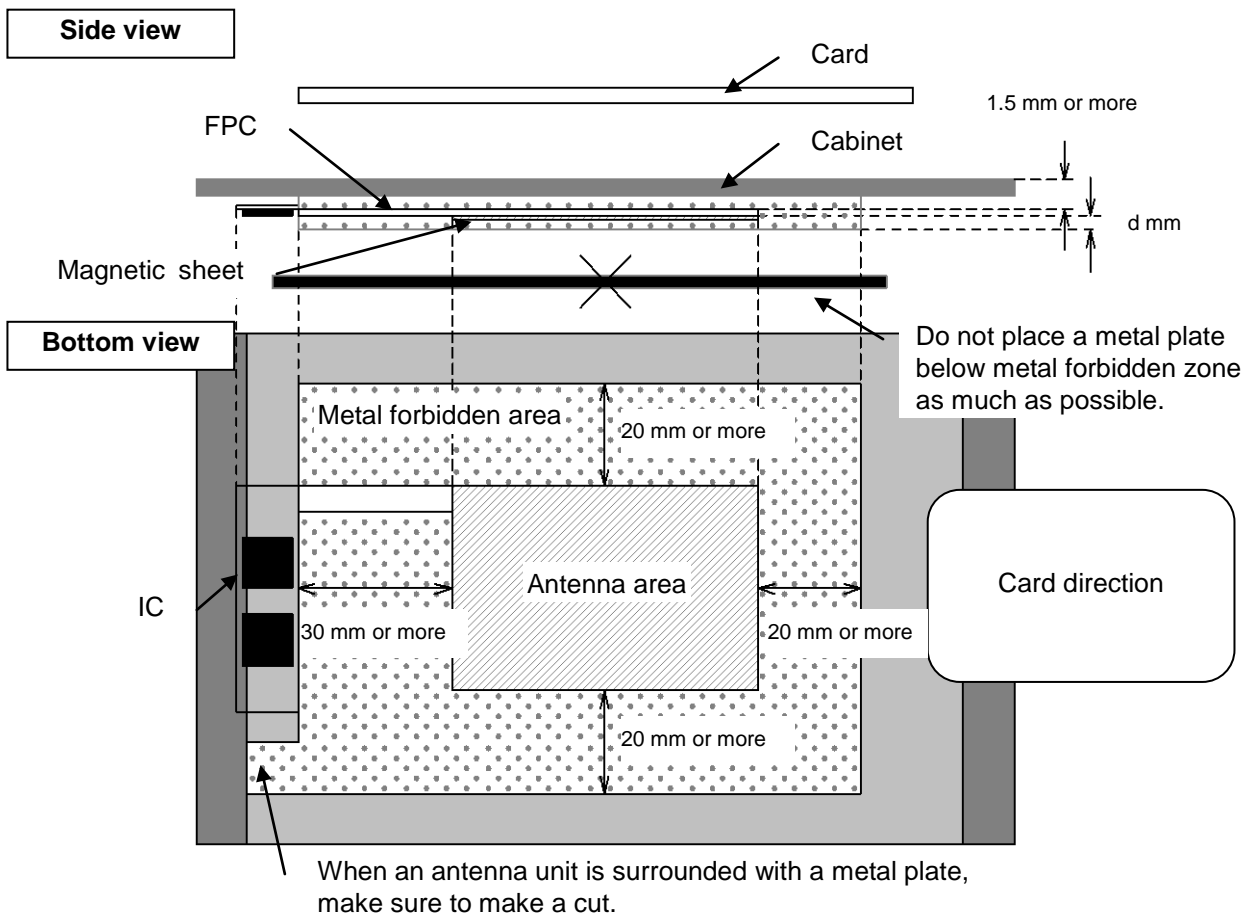

Figure B-1: Installation requirements
2. Stick the antenna to a plane (modification of the antenna is subject to penalties according to applicable laws or regulations). Do not place any metal in the forbidden area (dot-meshed area in Figure B-1) secured around the antenna. Particularly, communication performance undoubtedly deteriorates if a plate-like metal is put near the antenna. And to avoid damage to an antenna, do not place projections or movable parts. Moreover, fix the positional relationship between a module and an antenna.